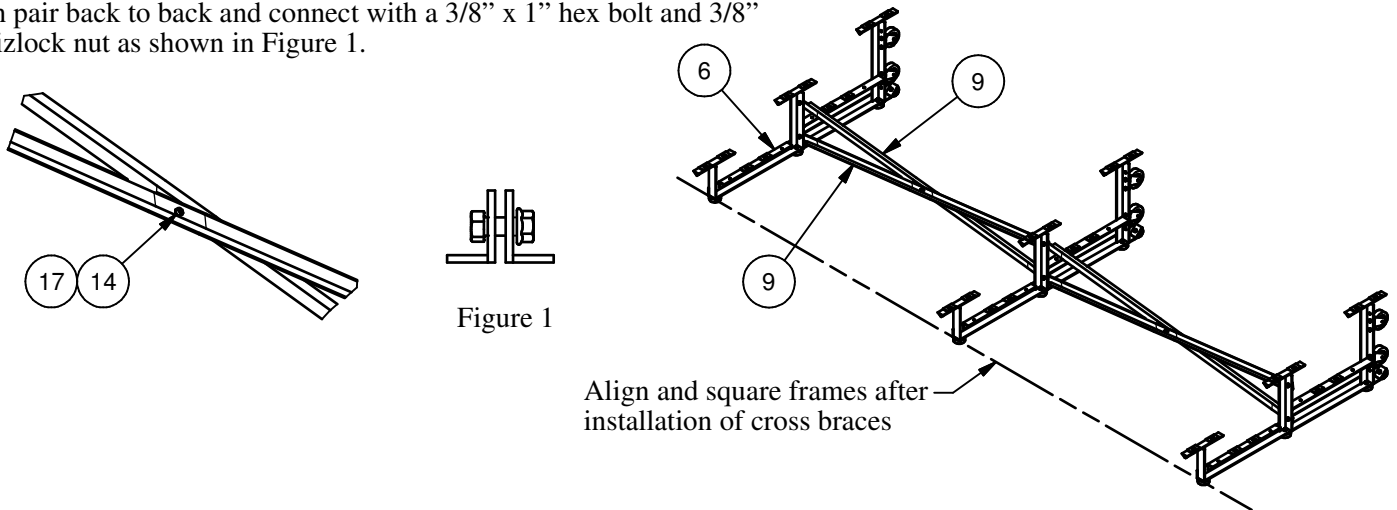

Figure 1
1. Pre-assemble the braces by laying them out in pairs. Place the angles in each pair back to back and connect with a 3/8" x 1" hex bolt and 3/8" Whizlock nut as shown in Figure 1.